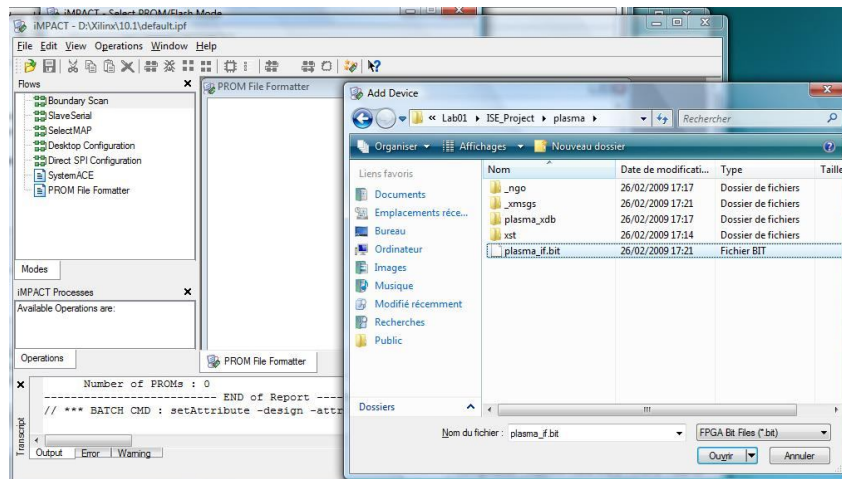

Figure 7 : Choosing the bitstream file (.bit)
- h. In this step you have to browse your bitstream file (.bit), generated by the synthesis process. After uploading your file, you will be asked for adding a new device, just choose No (Figure 7).